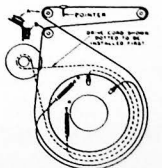

Fig. 4
**NOTE B**—**DIAL CALIBRATION:** In order to adjust the receiver correctly the dial must be aligned to track properly with the tuning condenser. To adjust the dial, proceed as follows: With the tuning condenser closed (maximum capacity), set the dial pointer on the extreme left index line at the low frequency end of the broadcast scale. The arrangement of the drive cable in this position is shown in Fig. 4.